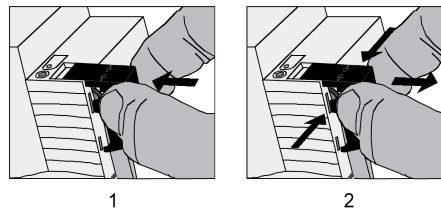

Figure 7: Installing / removing the protective cap for the bus connection
- To install the cap: slide the cap over the bus terminal until you feel it engage (Figure 7).
- To remove the cap: Remove the cap by pressing the sides slightly and by pulling it out to the front (Figure 7).